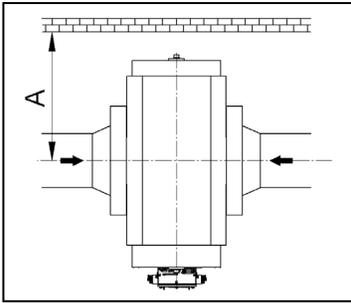

Figure 2a: IRM-3 DUO
The meter is equipped with oil-level gauge glasses on **two sides**, so the meter must be mounted with a minimum distance (A) or (B) from the centre of the pipe to the wall, in order to facilitate access for maintenance (Figure 2a / 2b and Table 1).